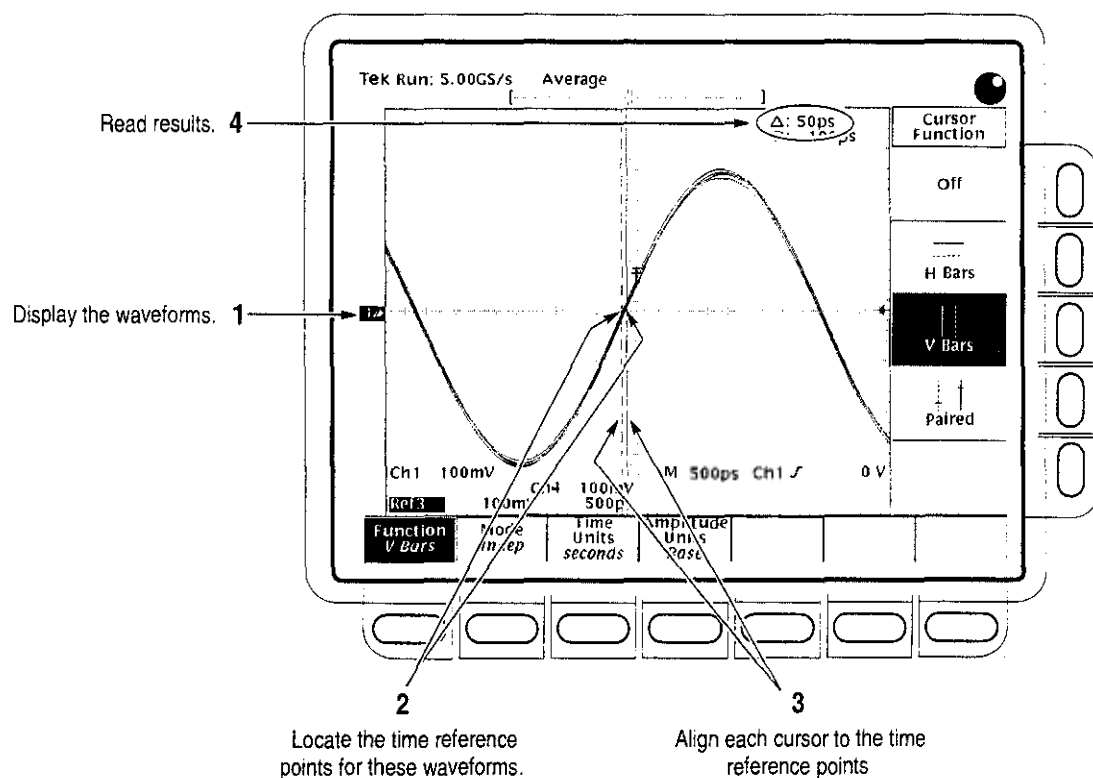

Figure 1-10: Measurement of Channel Delay
- Display the live waveform. Move the coupler from **CH 3** to **CH 4**, so that CH 1 and CH 4 are driven. Press **CH 4** to display. See Figure 1-10 on page 1-40.
- Display the reference waveforms. To do this, press the front-panel button **MORE**. Press the main-menu buttons **Ref 2** and **Ref 3**. You may notice their overlapping ground reference indicators. See Figure 1-10 on page 1-40.
- Locate the time reference points for these waveforms. Do this by first identifying the point on the rising edge of the left-most waveform crosses the center horizontal graticule line. Next, note the corresponding *time reference point* for the right-most waveform. See Figure 1-10 on page 1-40.
(Press **SELECT** to switch between the two cursors.) See Figure 1-10 on page 1-40.